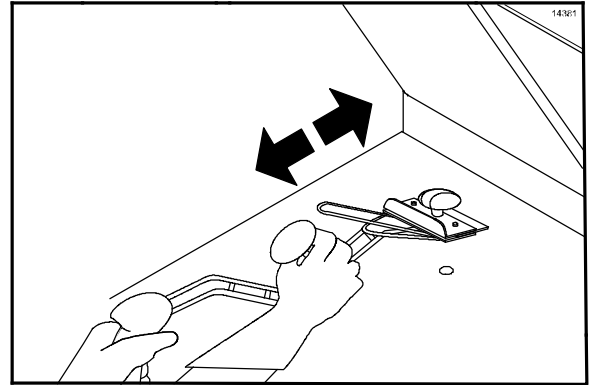

Figure 84
10. Scrape the **lower** grill surface with the grill scraper, from front to back. (See Figure 84.)